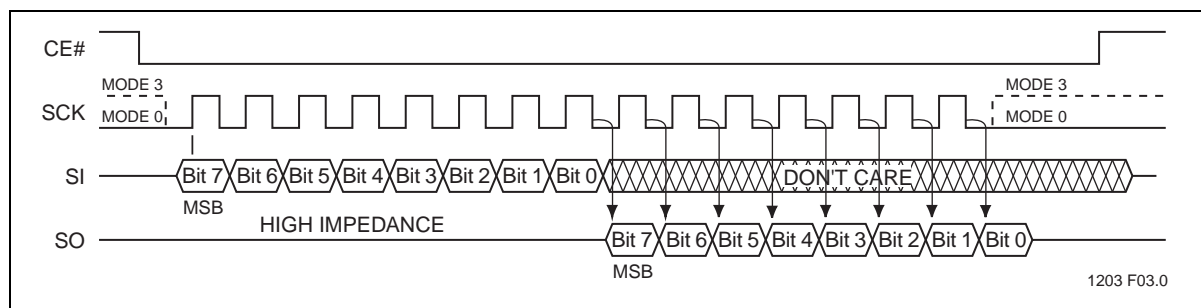

Figure 4: SPI Protocol
The SST25WF080 support both Mode 0 (0,0) and Mode 3 (1,1) of SPI bus operations. The difference between the two modes, as shown in Figure 4, is the state of the SCK signal when the bus master is in Stand-by mode and no data is being transferred. The SCK signal is low for Mode 0 and SCK signal is high for Mode 3. For both modes, the Serial Data In (SI) is sampled at the rising edge of the SCK clock signal and the Serial Data Output (SO) is driven after the falling edge of the SCK clock signal.